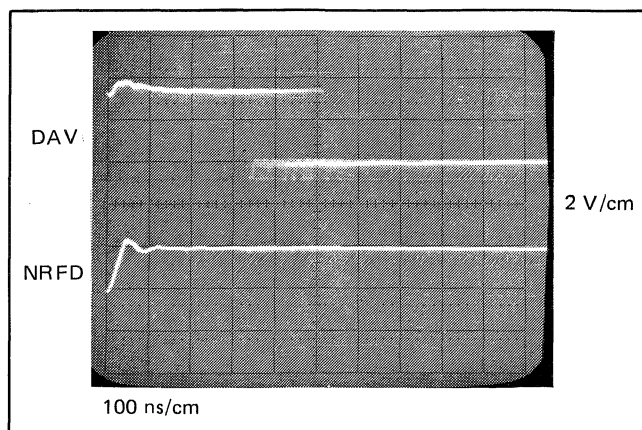

Figure 4-3. Talker Response to NRFD.
b. The Oscilloscope display should be similar to that shown in Figure 4-3. The time between the positive going edge of the NRFD signal and the negative going edge of the DAV signal must be less than 700 nanoseconds. Remove the Function Generator leads from the 59401A.